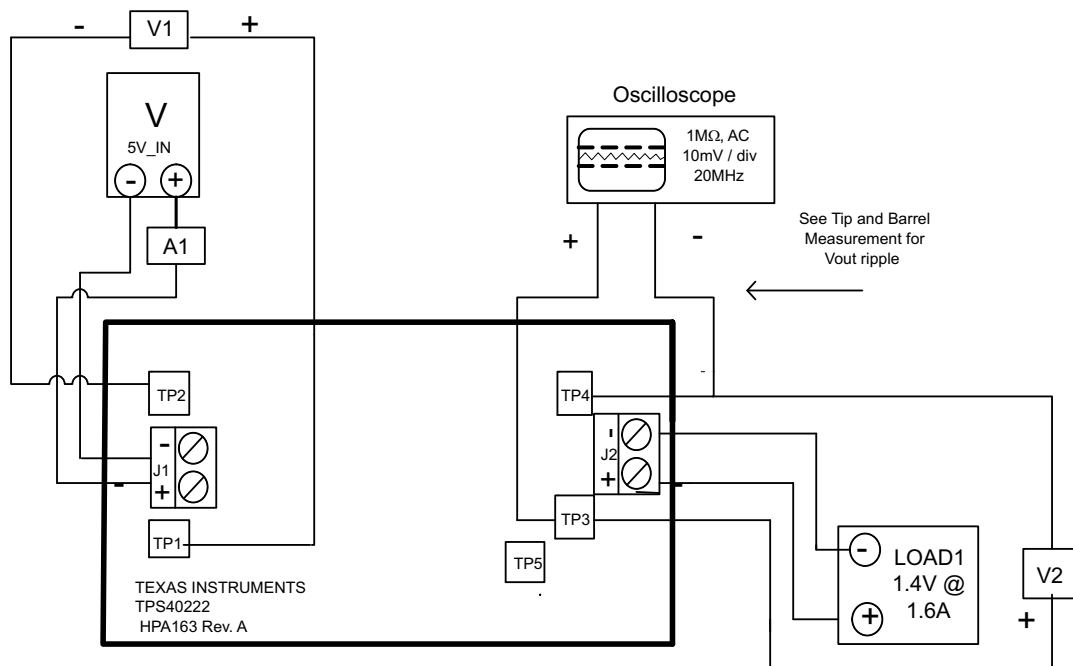
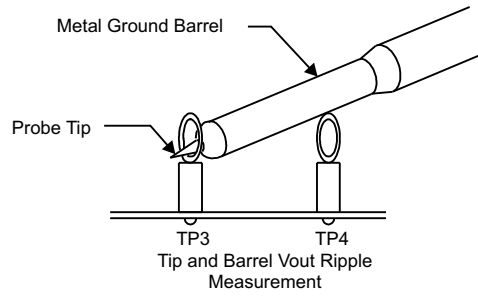

Figure 2. TPS40222EVM-001 Recommended Test Setup
Figure 3. Output Ripple Measurement – Tip and Barrel Using TP15 and TP16
V_{5V_IN} – The input voltage source (V_{5V_IN}) should be a 0-V to 15-V variable DC source capable of 5 A dc. Connect V_{5V_IN} to J1 as shown in Figure 2.
OSCILLOSCOPE – A 60-MHz or faster oscilloscope can be used to determine the ripple voltage on 1V4_OUT. The oscilloscope should be set for 1-M Ω impedance, AC coupling, 0.5- μ s/division horizontal resolution, 10-mV/division vertical resolution for taking output ripple measurements. TP3 and TP4 can be used to measure the output ripple voltage by placing the oscilloscope probe tip through TP3 and holding the ground barrel to TP4 as shown in Figure 3. For a hands-free approach, the loop in TP4 can be cut and opened to cradle the probe barrel. Using a leaded ground connection may induce additional noise due to the large ground loop area.
Figure 3 shows the basic test setup recommended to evaluate the TPS40222EVM-001. Note that although the return for J1 and J2 are the same, the connections should remain separate as shown in Figure 2.
2. Prior to connecting the DC input source, V_{5V_IN} , it is advisable to limit the source current from V_{5V_IN} to 2 A maximum. Ensure that V_{5V_IN} is initially set to 0 V and connected as shown in Figure 2.
3. Connect the ammeter A1 (0–5-A range) between V_{5V_IN} and J1 as shown in Figure 2.
4. Connect voltmeter V1 to TP1 and TP2 as shown in Figure 2.
5. Connect LOAD1 to J2 as shown in Figure 2. Set LOAD1 to constant-current mode to sink 0 Adc before V_{5V_IN} is applied.
6. Connect voltmeter, V2 across TP3 and TP4 as shown in Figure 2.
7. Connect oscilloscope probe to TP3 and TP4 as shown in Figure 3.
Table 3 lists the EVM components as configured according to the schematic shown in Figure 1 and Figure 2.